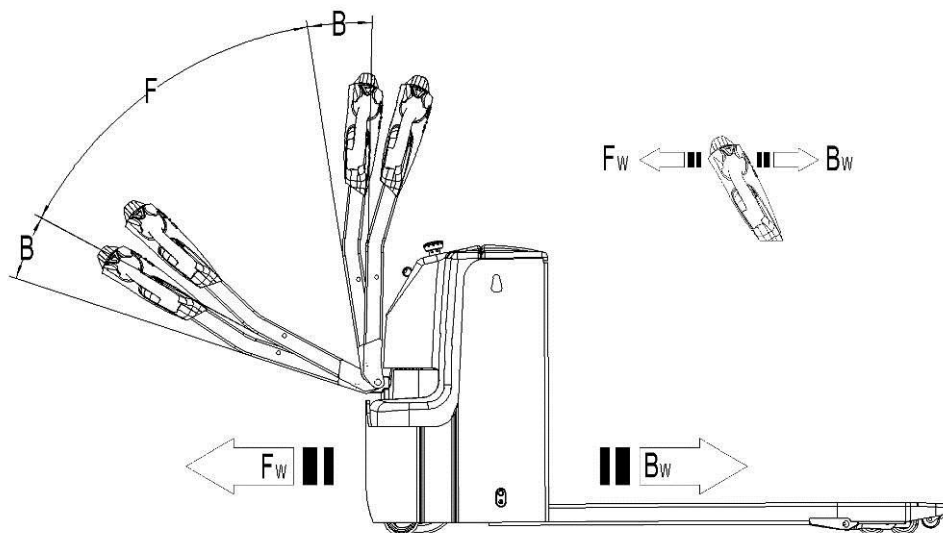

Fig. 14: Operating direction
After starting the truck by turning on the key switch (8), move the tiller to the operating zone ('F', fig.14).
Turn the accelerator button to the desired direction forward 'Fw.' or backwards 'Bw.'(fig. 14).